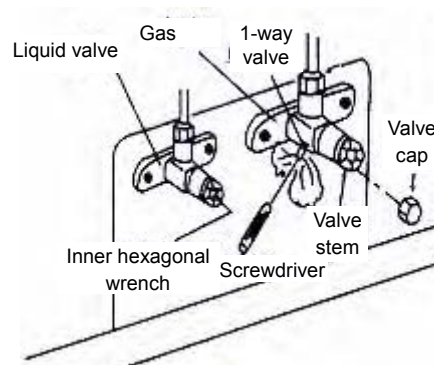

Fig. 3-1-5
- g) Completely open the element of liquid valve and air valve, (as shown in Fig. 3-1-5).